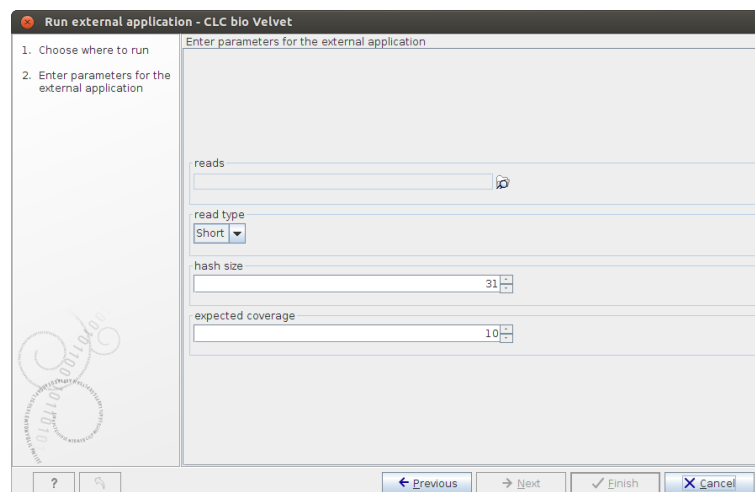

Figure 12.14: Configuring Velvet parameters from a Workbench.
- Select (📁) the reads to assemble and configure the Velvet parameters, as shown in figure 12.14.